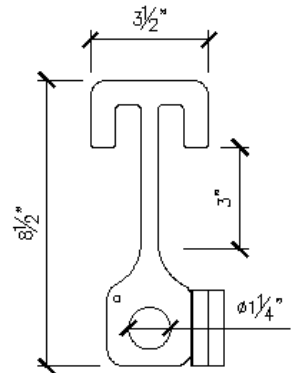

Figure 20 - Anchor Dimensions
B. Portable Truss Anchor (See Figure 20)